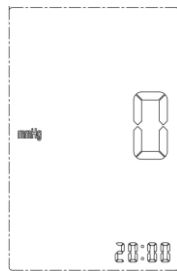

Fig 11
- 3) Then the display on switch to fig 11, a beep sound indicates the monitor has begun taking the measurement.